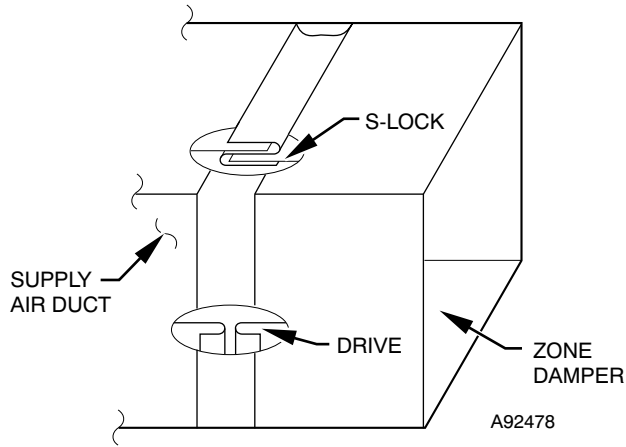

Fig. 3 – Rectangular Metal Ductwork
1. Make connections using S-lock and drives (See Fig. 3).